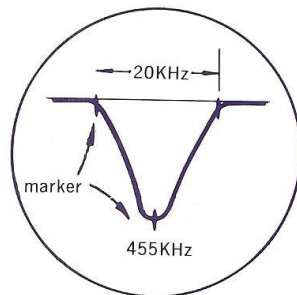

Fig. 13
- Turn SELECTOR Switch on the front panel of AA-8500 to AM position, VOLUME to minimum position, and set AM Sensitivity SELECTOR Switch (rear panel) to DX position. Then adjust the cores of T-903 (yellow), T-904 (white), and T-905 (black) to obtain the waveform as shown in Fig. 13.